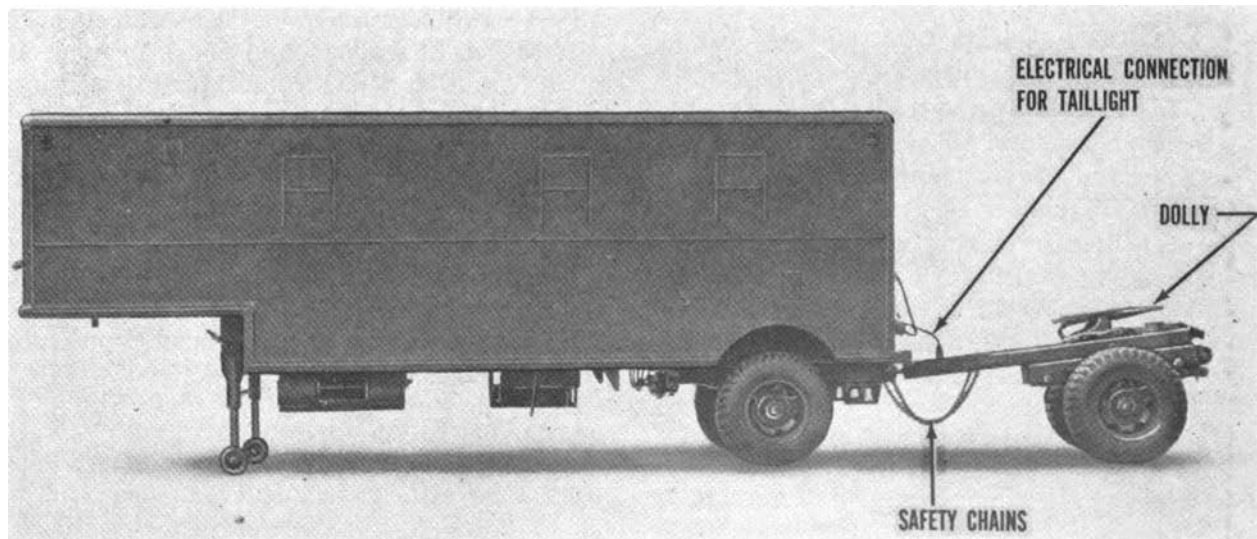

Figure 12. Semitrailer with dolly attached to rear.
- (4) Crank up rear leveling jacks.
- (5) Back towing vehicle under semitrailer so that semitrailer kingpin is centered, or nearly so, on ramps of coupler. Continue backing until fifth wheel of towing vehicle locks firmly to semitrailer kingpin.
- (6) Attempt towing semitrailer. If coupling is complete, forward movement of semitrailer will be extremely difficult.
- (7) Make sure dolly airbrake valve in dolly cavity of semitrailer is closed.
- (8) Connect service air lines and emergency air lines to couplings at front of semitrailer.
- (9) Open the two cutout cocks on towing vehicle to permit air to enter semi-trailer brake system.
- (10) Couple light jumper cable from electrical source in towing vehicle into electrical coupling socket at front of semitrailer.
- (11) Crank up front landing gear.
- (12) Release hand parking brake.
- (13) Place rear-wheel chock blocks and front landing-gear supports in their racks and secure.
- (14) If desired, hitch dolly to pintle at rear of semitrailer (fig. 12).
- (15) Couple light jumper cable from socket at rear of semitrailer to socket on drawbar of dolly to provide dolly with an operating rear stoplight.